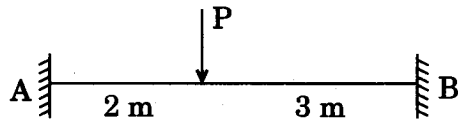

Figure 2
- (b) For the fixed beam AB, subjected to a point load 'P' at C (as shown in Figure 2), the correct BMD is